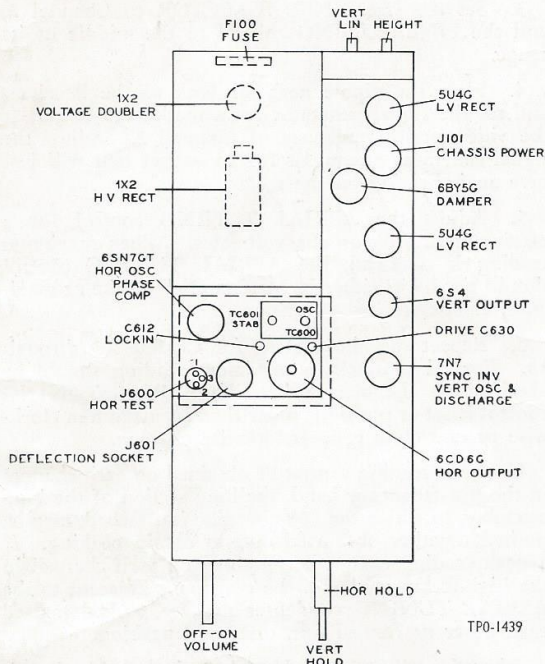

Figure 1. Power, Deflection Chassis, Top View
- a. Lockin trimmer, C612, 1 turn counterclockwise from the maximum clockwise position. See figure 1.
2. Tune in a station, and adjust TC600 (figure 1) until the picture is brought into sync.